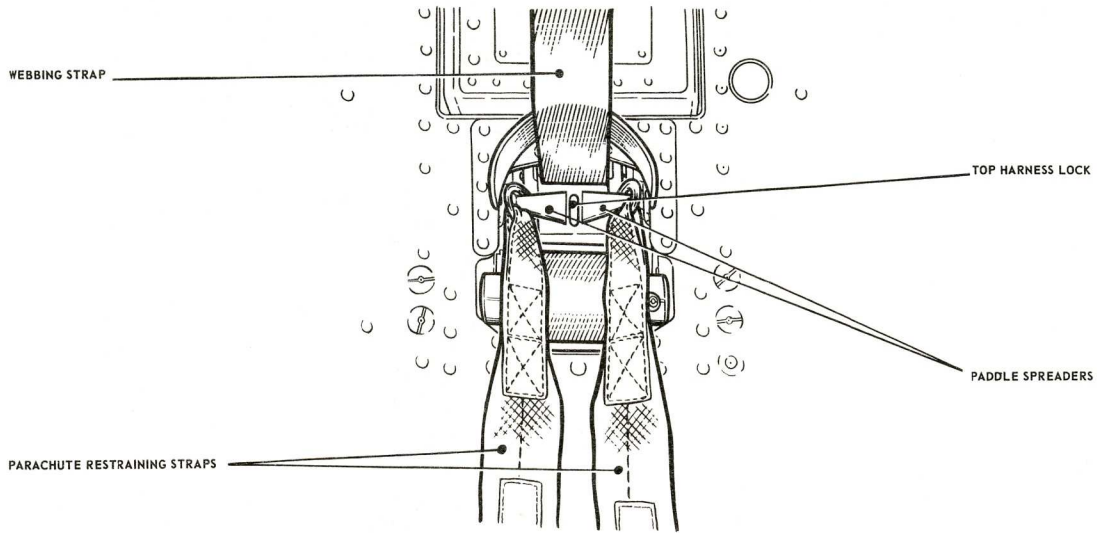
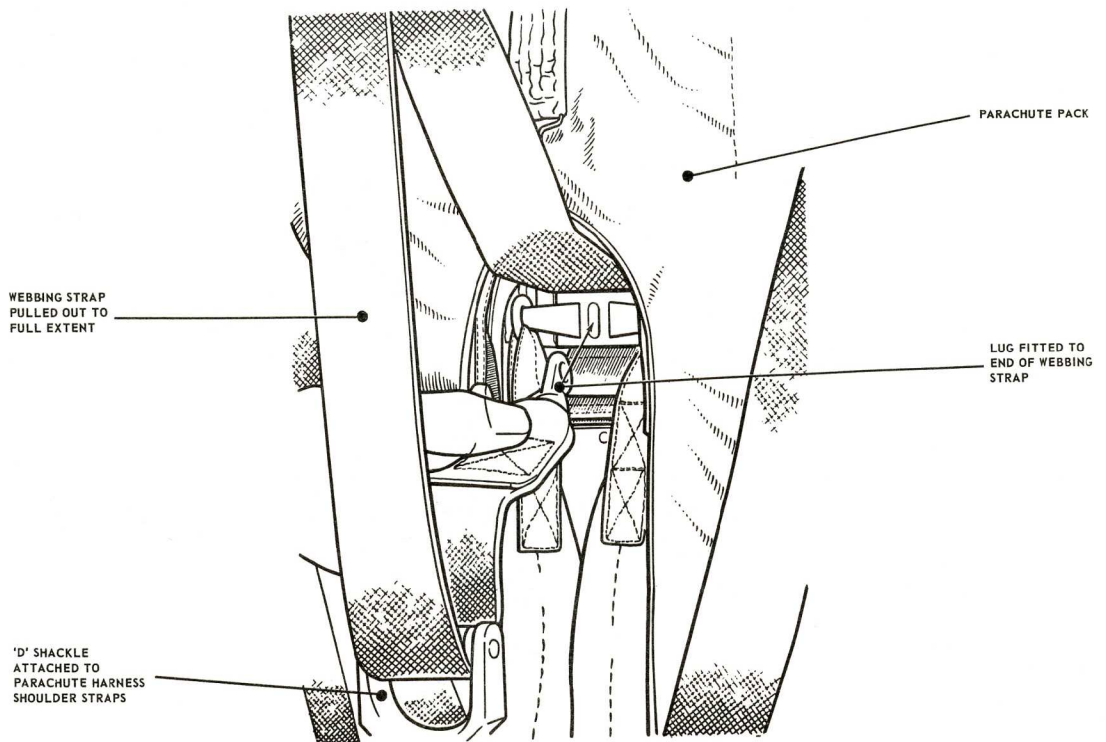
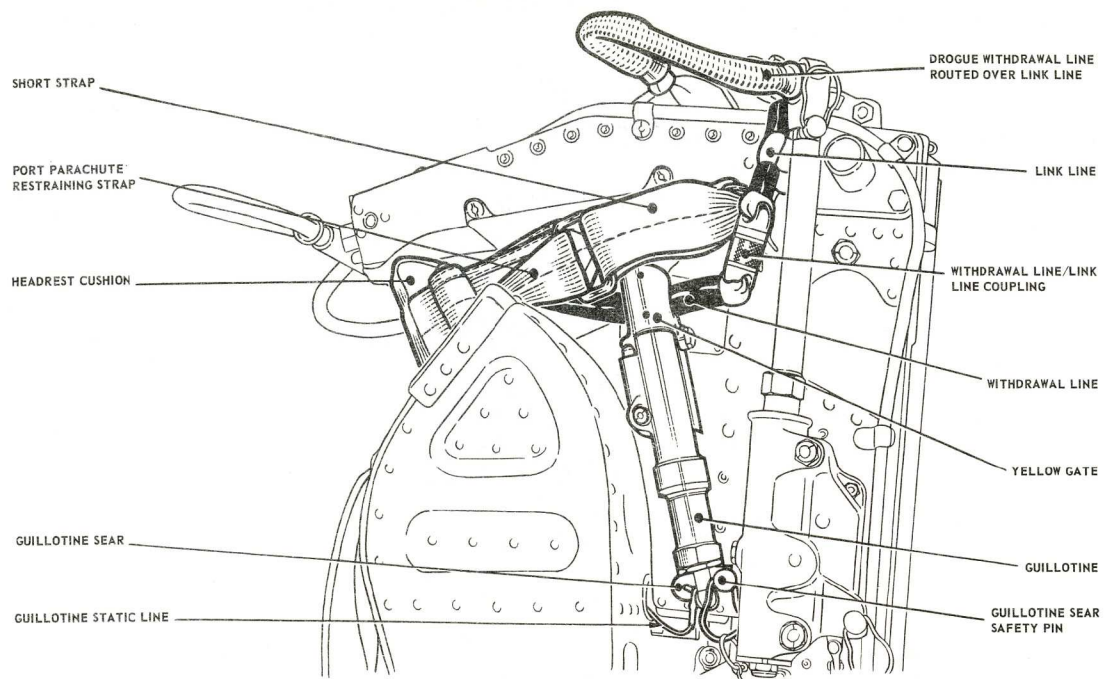

Fig. 2. Attachment of parachute restraining straps to paddle spreaders
Fig. 3. Insertion of lug into top harness lock
Fig. 4. Arrangement on port side of drogue container
- (1) The emergency oxygen system is to be fitted in accordance with A.P.4288D, Vol. 5, before the seat is installed in the aircraft.
- (2) Remove and retain the safety pin from the emergency oxygen cylinder operating head and ensure that the 'tell-tale' wire is intact.
- (3) Ensure that the seat pan is clean and that the leg restraint cords are clear of the seat pan.
- (4) Open the paddle spreaders situated in front of the top harness lock and pass the O-rings of the two parachute restraining straps over the paddle spreaders, one over each spreader. Ensure that each O-ring is pushed well back towards the pivot end of its paddle spreader and close the paddle spreaders inwards towards each other as far as they will go (*fig. 2*).
- (5) Place the parachute pack in the parachute container, guiding the static line for the guillotine through its aperture in the back plate; push the pack well into the container so that it is supported on the support bracket. Bring the two parachute restraining straps through the arch of the pack, ensuring that they are not crossed.
- (6) Ensure that the manual separation handle is in the locked position.
- (7) Move the 'go-forward' lever to the fully forward position and then release it to the centre position. Pull out the webbing strap from under the parachute support bracket and hold it against the spring tension.
- (8) Pass the webbing strap DOWNWARDS through the D-shackle attached to the harness shoulder straps, ensuring that the harness straps are not twisted. Insert the lug fitted to the end of the webbing strap, between the inner extremities of the paddle spreaders and into the top harness lock in the back of the seat (*fig. 3*); push the lug in until it locks into position. It may be necessary to partially depress the harness release lever situated below the barostatic time release unit, to facilitate the insertion of the lug; check that it has locked correctly by pulling on the webbing strap. Move the 'go-forward' lever to the rear position and allow the strap to wind back.
- (9) Connect the two halves of the parachute withdrawal line/link line coupling. Open the yellow gate on the top of the guillotine and route the parachute withdrawal line through the aperture in the guillotine; close the gate and ensure that it correctly retains the parachute withdrawal line.
- (10) Draw the free ends of the parachute restraining straps forward through the arch of the parachute pack, over the pack and towards the rear of the seat, on either side of the drogue container
- (11) Pass the port restraining strap over the parachute withdrawal line and insert its end through the buckle of the short restraining strap on the port side of the drogue container, from the outside inwards. Ensure that the drogue link line which is connected to the parachute withdrawal line is routed OUTSIDE the short restraining strap (*fig.4*).
- (12) Insert the end of the starboard restraining strap through the buckle of the short restraining strap on the starboard side of the drogue container, from the outside inwards
- (13) Position the headrest wedge pad on the top of the parachute pack, between the pack and the drogue container. Pass the ends of the parachute restraining straps through the buckles on each side of the headrest wedge pad so that the ends emerge on the outside of the buckles.
- (14) Work the straps back and forth in the self-locking buckles on the headrest wedge pad until the parachute pack and wedge pad are strapped tightly to the seat. Pass the free ends back through the buckles on the short restraining straps and stow them neatly between the drogue container and the straps.
- (15) Check that the drogue withdrawal line has been routed OVER all other lines, (*fig. 4*).
- (16) Ensure that the safety pin is fitted through the sear of the guillotine firing unit. Attach the guillotine static line to the seat.
- (17) Lift the harness clear of the seat pan and fit the negative-G restraint strap as follows –
- (18) Fit the personal survival pack into the seat pan, draping the lowering line over the port side of the seat pan.
- (19) Secure the cushion to the seat strap of the harness by passing the strap under the cushion and locating it in position with the two press-studded becketts.
- (20) Pass the leather covered straps of the cushion through the two webbing loops on either side of the personal survival pack from rear to front. Pass the leg straps of the combined harness up through the slot in the cushion and secure the cushion to the pack with the lift-the-dot fasteners. Ensure that the leg loops are not crossed.
- (21) Connect the side quick-release couplings of the personal survival pack to the couplings on the harness, ensuring they pass outside the harness lap straps.